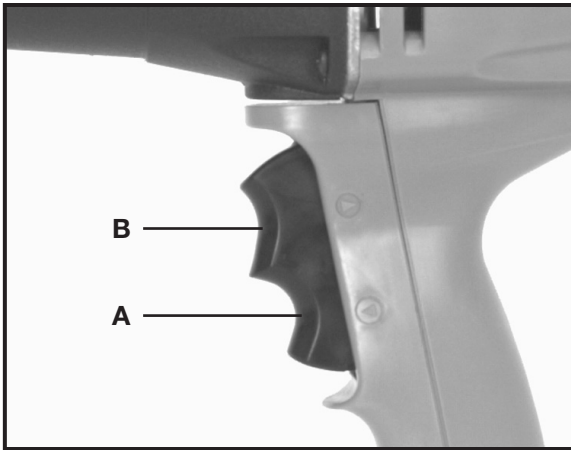

Fig. 1
4. To START the machine in FORWARD (clockwise rotation), depress the bottom of the trigger switch (A) Fig. 1.
To START the machine in REVERSE (counterclockwise rotation), depress the top of the trigger switch (B) Fig. 1.